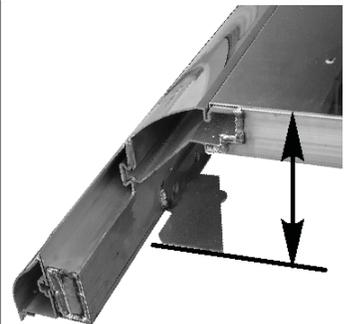

Figure 1
1) See Figure 1. To locate the starting point of the aluminum rail, the thickness of the bulkhead must be known. Measure the bulkhead front-to-back and transfer that measurement to the front of the trailer. A Conestoga 2 bulkhead is typically 10 1/4" from the front of the bulkhead to the back of the wing, however, it is a good practice to measure each bulkhead for greater accuracy.